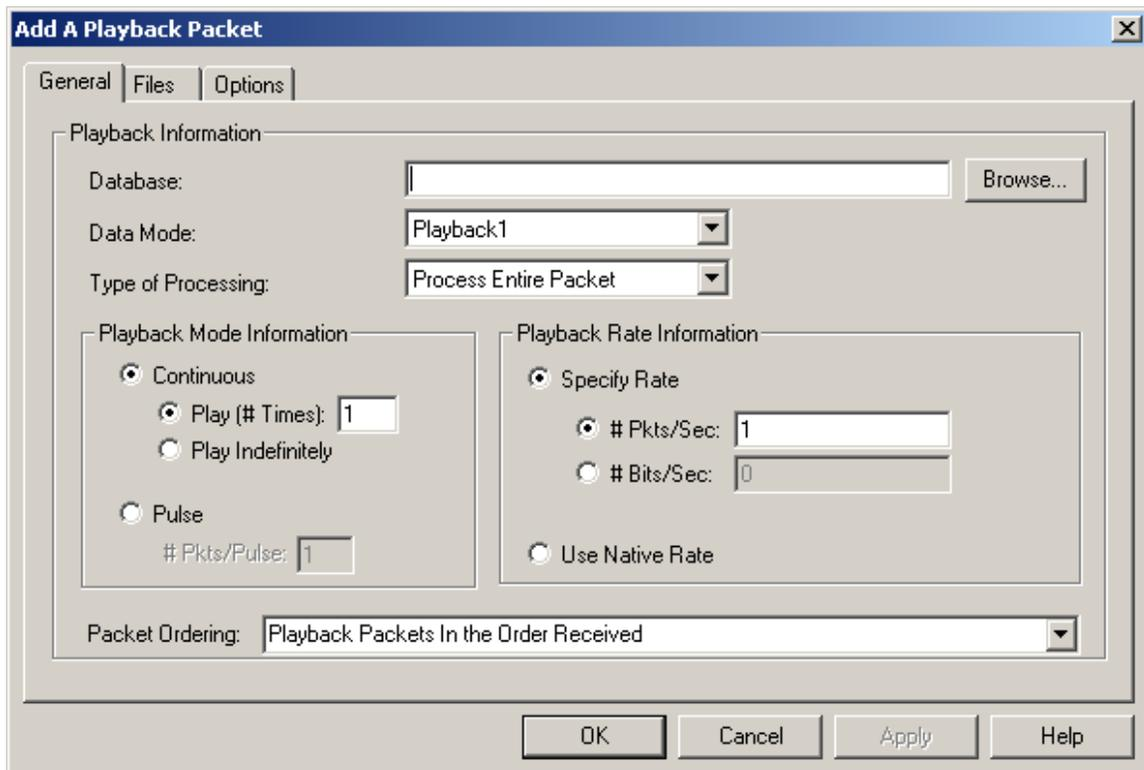

Figure 7 Add A Playback Packet (General Tab) Dialog
2. To run a local TReK playback you first need to add a playback packet. Go to the **Packet** menu and select **Add A Playback Packet**. The Add A Playback Packet dialog in Figure 7 will be displayed.